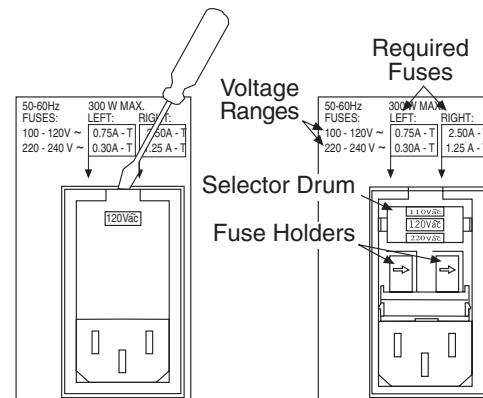

Figure 52. Power Input Module
1. As shown in Figure 52, place the flat side of a flat bladed screwdriver parallel to the rear of the Controller and behind the small tab at the top of the power input module, and twist the screwdriver slowly but firmly to pop the module open.